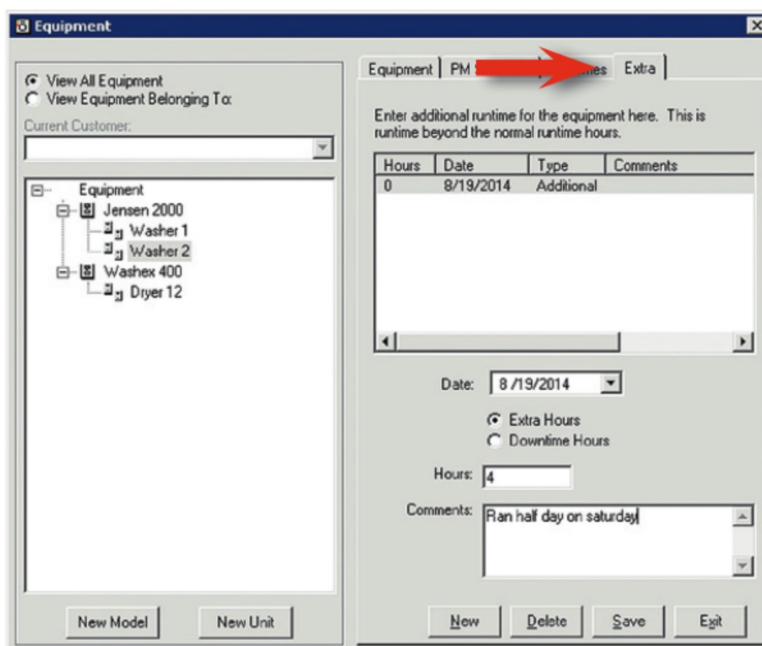

Figure 34. Equipment dialog **Extra** tab.
3. Click the **Extra** tab (see Figure 34).